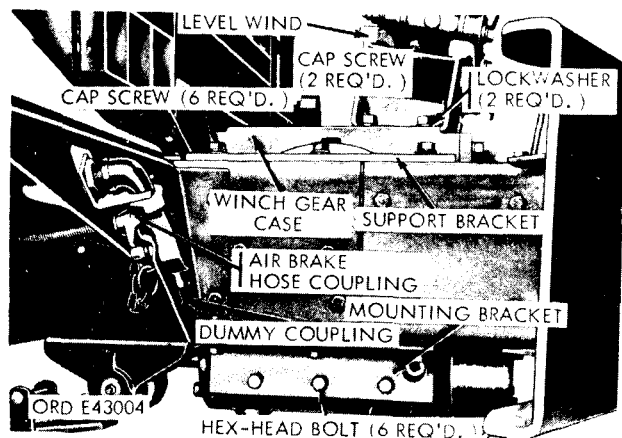

Figure 2-266. Front winch and level wind installed to vehicle—right side view.
(3) Remove the three hexagon-head bolts, safety nuts, and lock washers (fig. 2-266) from the mounting bracket at each end of the winch.
(4) Remove the three capscrews (fig. 2-266) and lockwashers from the support bracket at each end of the winch.
(5) Hoist the winch high enough to clear the front bumper, and remove the winch from the vehicle.
(1) Attach the hoisting equipment to the winch, and hoist the winch high enough to clear the front bumper.
(2) Lower the winch between the frame side rail extensions, and aline the winch mounting holes.
(3) Install the three capscrews (fig. 2-266) and lockwashers in the holes in the support bracket and side rail extension at each end of the winch, and tighten the capscrews.
(4) Install the three hexagon-head bolts, lockwashers, and safety nuts in the mounting bracket holes at each end of the winch (fig. 2-266).
(3) Remove the two capscrews (fig. 2-266) and washers securing the right end of the level wind to the gear case.
(4) Remove the two capscrews and washers securing the left end of the level wind to the end frame.
(5) Lift the level wind assembly off of the winch and remove the level wind from the vehicle.
(1) Position the level wind (fig. 2-266) on top of the winch, and aline the level wind mounting holes.
(2) Install the two washers and capscrews in the holes in the right end of the level wind and the gearcase.
(3) Install the two washers and capscrews in the holes in the left end of the level wind and the end frame.
(4) Place the cable in the swivel sheave groove. Position the cable guard on the swivel sheave frame and install the four lockwashers and capscrews in the guard and frame holes.